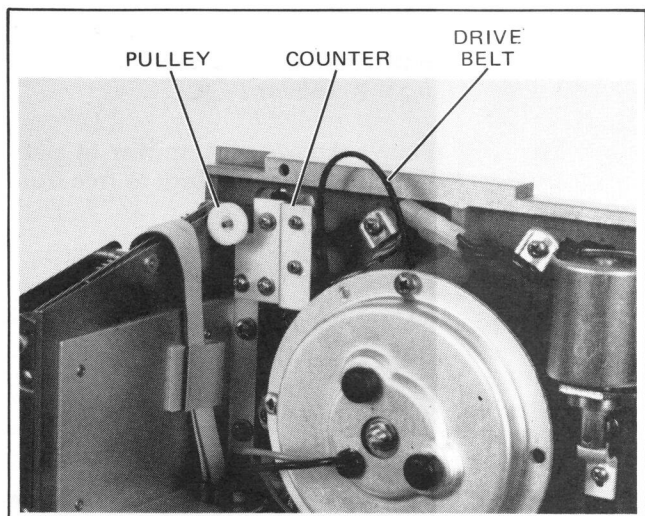

Figure 5-54. Reel Revolution Counter Removal
- d. Remove the drive belt from the Reel Revolution Counter pulley. The belt is elastic and can easily be pulled from the pulley (see Figure 5-54).
- e. Remove the counter and bracket from the transport. The two screws which secure the bracket are identified by arrows in Figure 5-54.